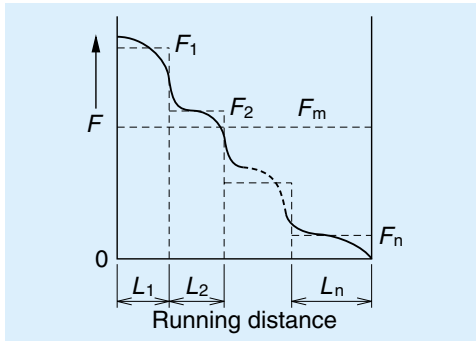

Fig. II-3-3 Stepwise load change
① When load and running distance vary stepwise (Fig. II-3-3)